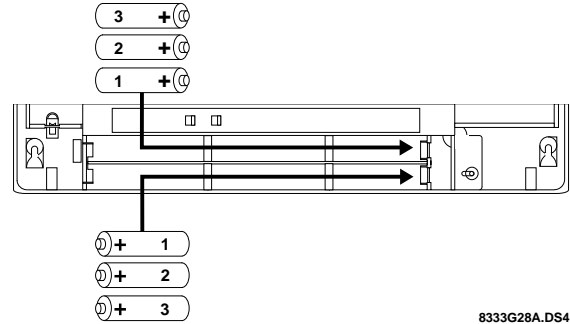

Figure 18. Battery Polarity and Order of Installation
- 6) Install six of the appropriate AA batteries in the order and direction shown in Figure 18.
- 3) Remove the backup batteries from the battery bucket, in reverse order of the installation shown in Figure 18. Then proceed to step 6 in "To install backup batteries" on page 6 to complete the replacement.